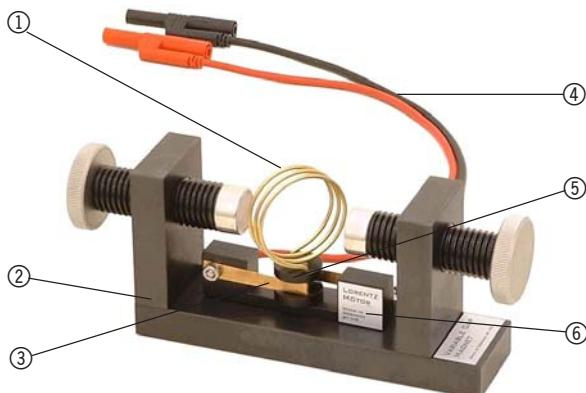

Fig.1: Components
The permanently attached connection leads ④ are equipped with commercially available lab safety plugs with 4 mm diameter. In one of the leads there is also a series resistor with approx.  $0.16 \Omega$  (not visible in Fig. 1) designed to limit the maximum motor current to such
- ① Coil with 3 turns
- ② Magnet U10370 (not included in scope of delivery)
- ③ Sliding contacts
- ④ Connection leads
- ⑤ Coil mount
- ⑥ Support bracket with rating plate
- ⑦ Shaft (not visible)